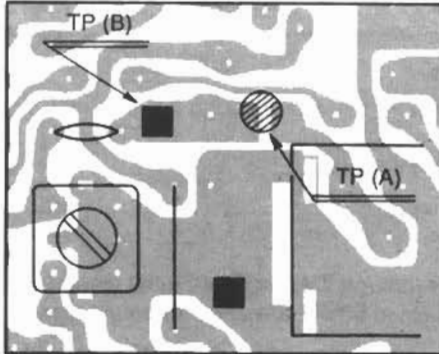

Fig. 1
1. Remove solder between TP(A) and TP(B). (Refer to Fig. 1)